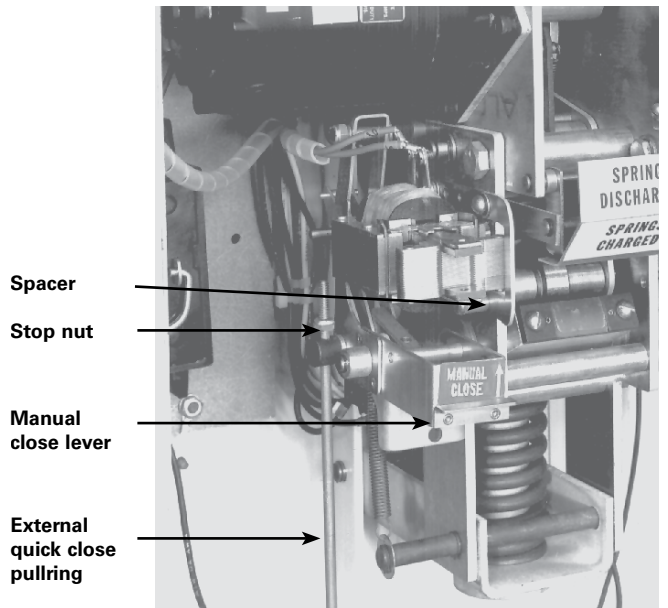

Figure 13. Attachment of external quick-close pulling
9. Disconnect external quick-close pull hook by removing attaching stop nut, Figure 13.
External Quick-Close pulling adjustment. The stop nut that secures the external quick-close pulling must be adjusted to prevent over travel of the manual close lever assembly, refer to Figure 13.